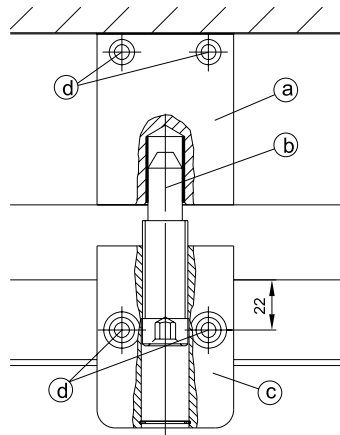

Fig. 6
6. Installing the upper lock mechanism (Fig. 6):